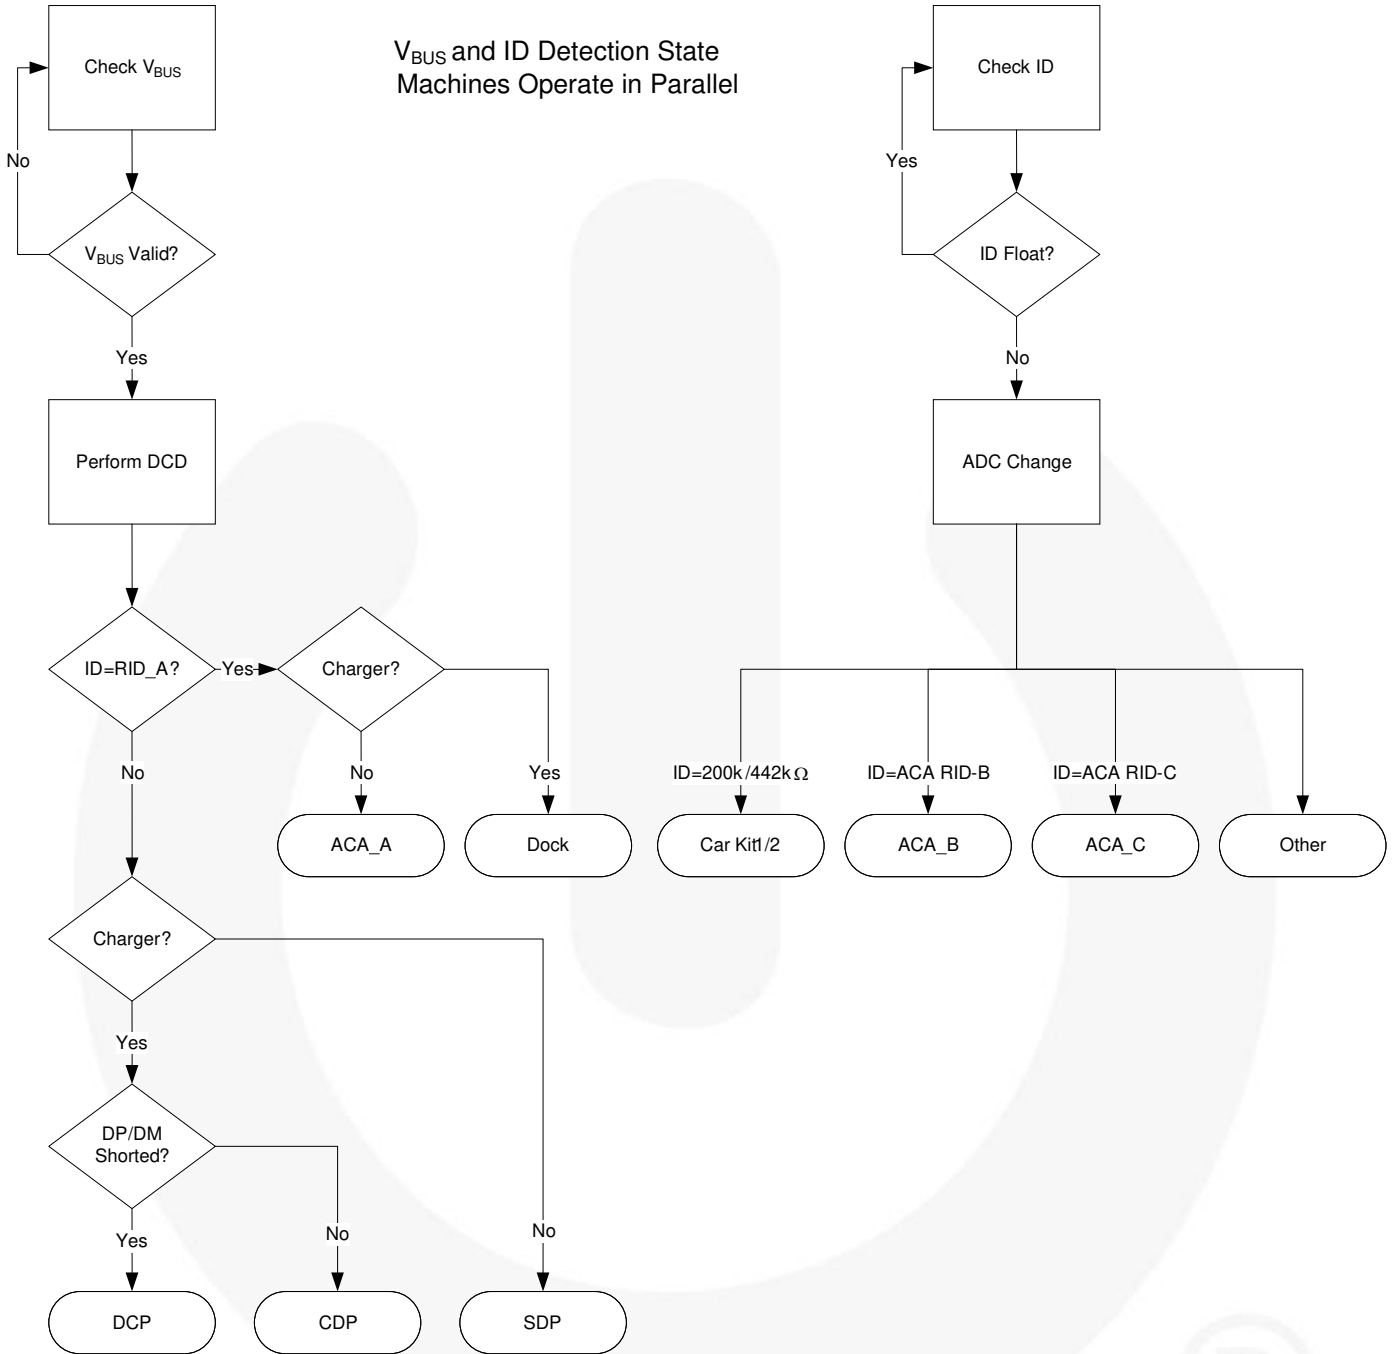

Figure 6. Accessory Discovery State Machine Flow Diagram
The USB detection flow is show in Figure 6. Note that the INTB Mask bit in the Control register must be cleared after a reset or
3. Figure 6 illustrates operation with a valid  $V_{DDIO}$  supply voltage. Figure 6 does not illustrate Dead Battery Provision (DBP) See Section 9 for details.